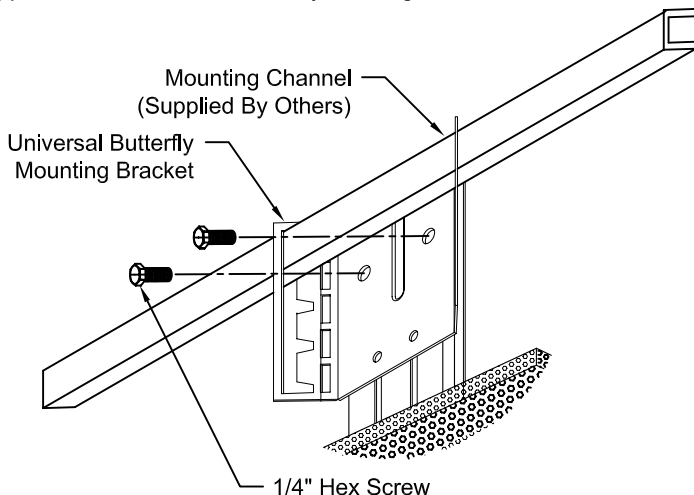
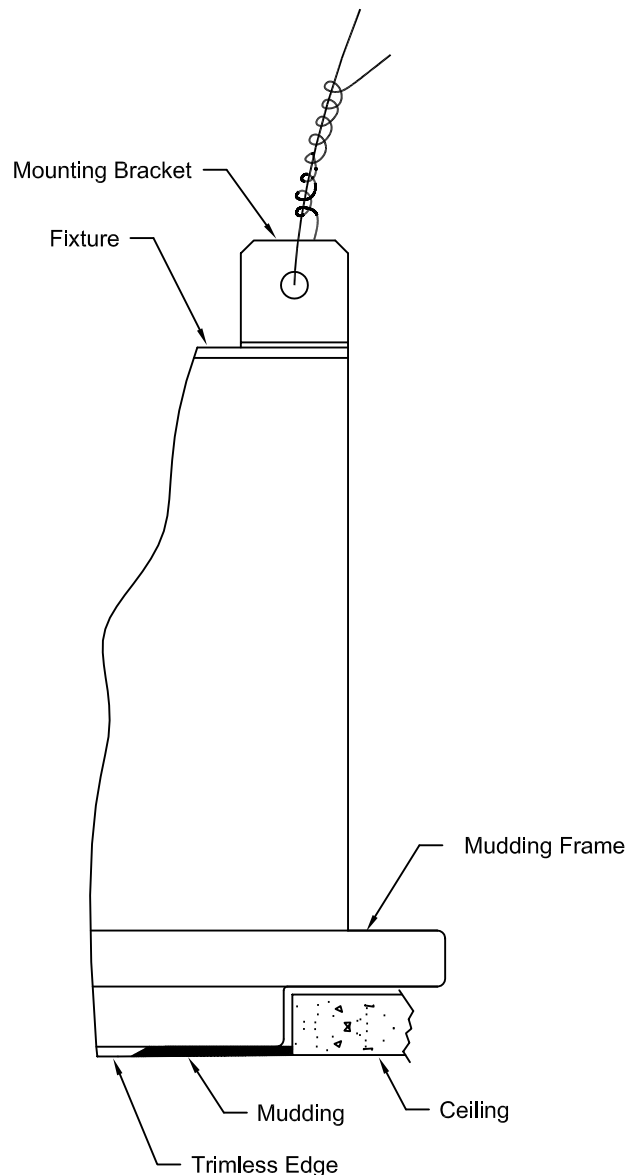

Figure 1
Figure 2
2. Fixture comes equipped with Universal Butterfly Mounting Brackets and can take common 1 inch or 1-1/2 inch Black Iron or Galvanized Mounting Channels (Supplied By Others). See Fig. 1.
6. Hang Fixture Assembly from Mounting Brackets with heavy gauge support wire for additional security. See Fig. 2.
7. Adjust elevation of Fixture so Trimless Edge will be flush with surface of finished Ceiling by loosening two (2) 1/4 inch Hex Screws on both Universal Butterfly Mounting Brackets. See Fig. 1 & Fig. 2.
8. Tighten two (2) 1/4 inch Hex Screws on both Universal Butterfly Mounting Brackets to secure Fixture. See Fig. 1.
9. Apply Mudding compound to Ceiling concealing Mudding Frame. See Fig. 2.